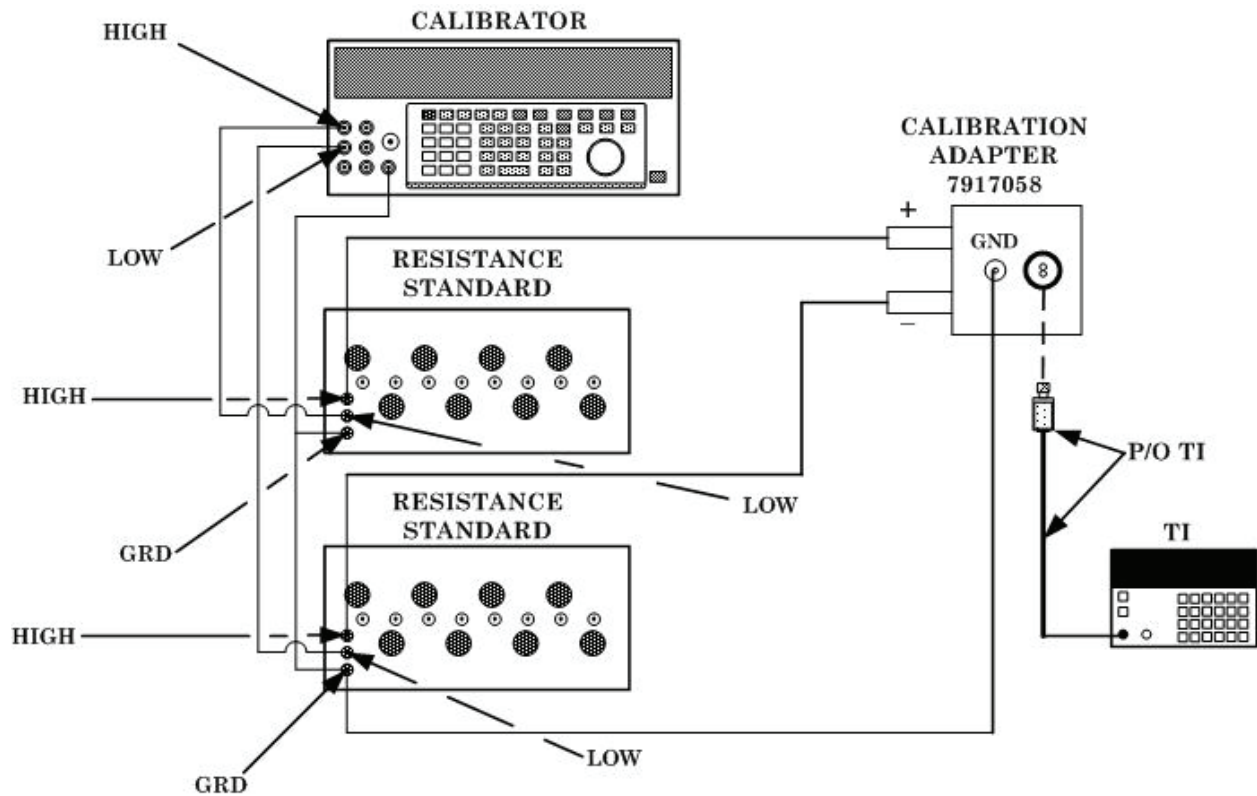

Figure 4. DC accuracy, low ranges - equipment setup.
(5) Set calibrator to **OPR** at 0 V dc output.
(6) Set both resistance standards for  $R_d$  value calculated in (4) above and connect equipment as shown in figure 4.
(7) Set TI **LINE** power switch to **ON**.